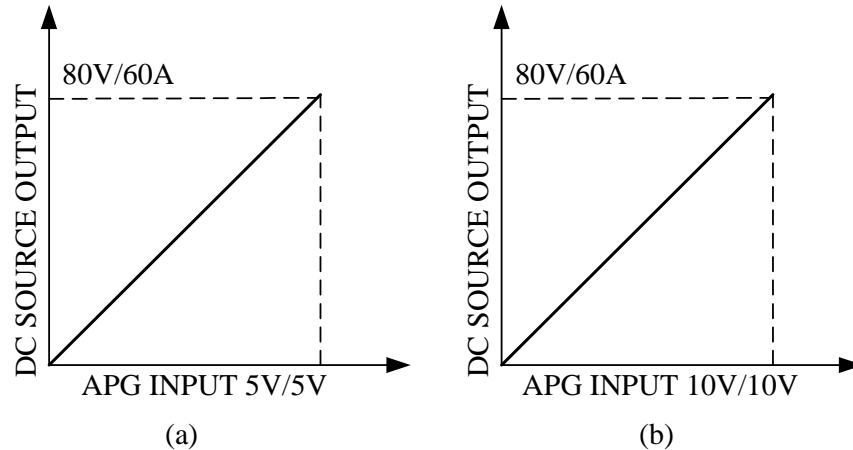

Figure 3-8
① NOTICE
- a. When selecting $V_{ref}=5V$: It means the DC Power Supply’s output $0V/0A\sim 80V/60A$ will map to $0\sim 5V$ (programming or measurement) as Figure 3-8(a) shows.
- b. When selecting $V_{ref}=10V$: It means the DC Power Supply’s output $0V/0A\sim 80V/60A$ will map to $0\sim 10V$ (programming or measurement) as Figure 3-8(b) shows.